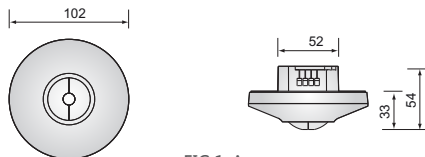

FIG.1-A
- KDP-DALI-02-M: 102x54mm (Ver FIG. 1 -A)